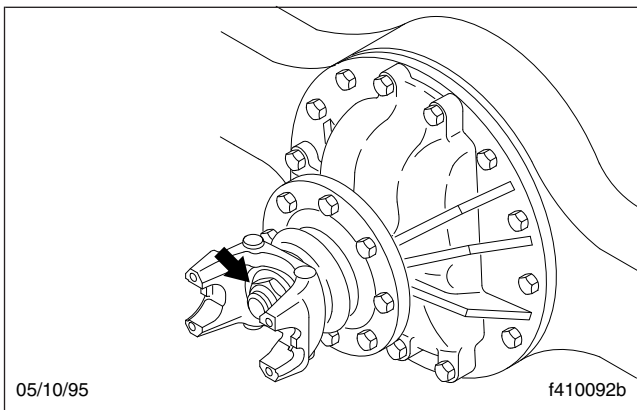

Fig. 12, Axle End-Yoke Locknut
2. Remove the end-yoke locknut. See Fig. 12.